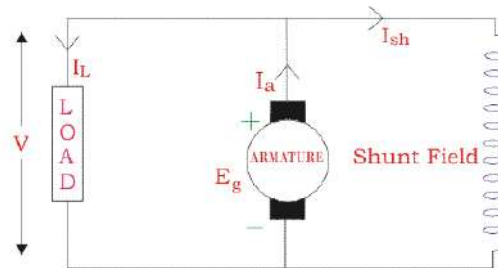

Figure.1.16. Self excited DC generator – Shunt wound.
1.6.3.2. Shunt wound Generator. In this type of DC generator, the field windings are connected in parallel with armature conductors, as shown in the figure 1.16. In shunt wound generators voltage in the field winding is same as the voltage across terminal.